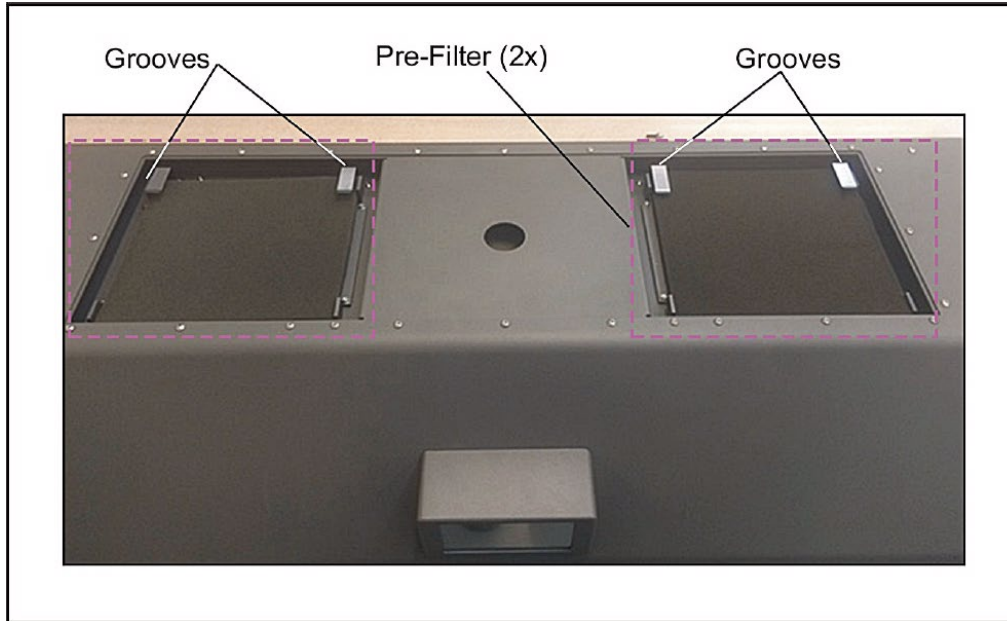

Figure 26. Pre-Filter Installation Locations
2. Install new filters in the grooves of the CAP system hood (Figure 26).